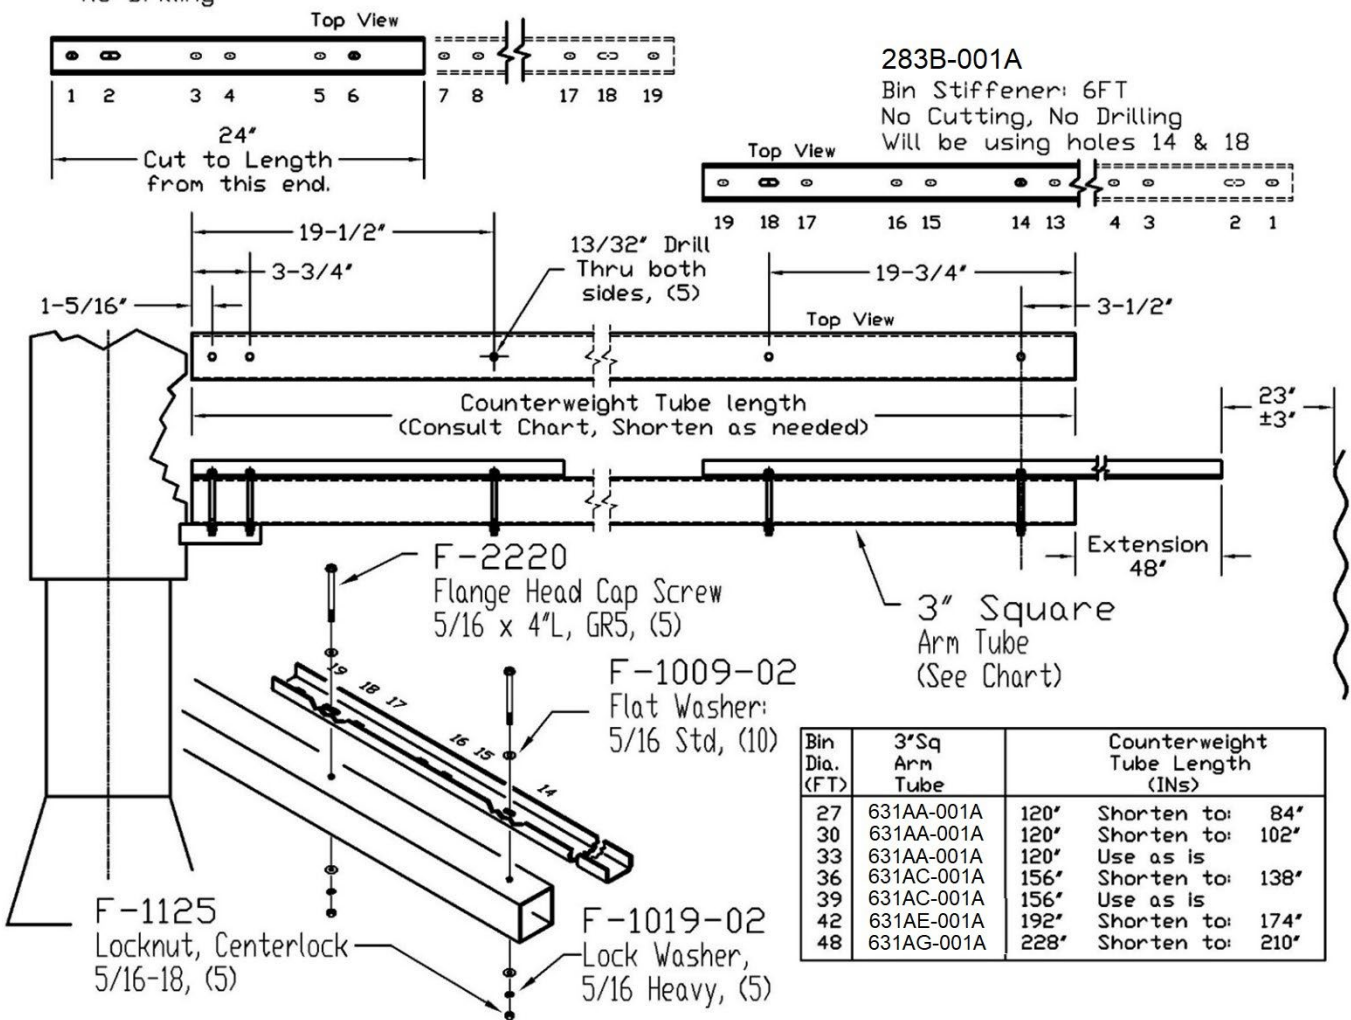

Fig 13.22
**13c. Modify one of the 283B-001A Stiffeners, Cut to length and Drill the 3" Square Tube, and assemble as shown in Fig 13.22.**